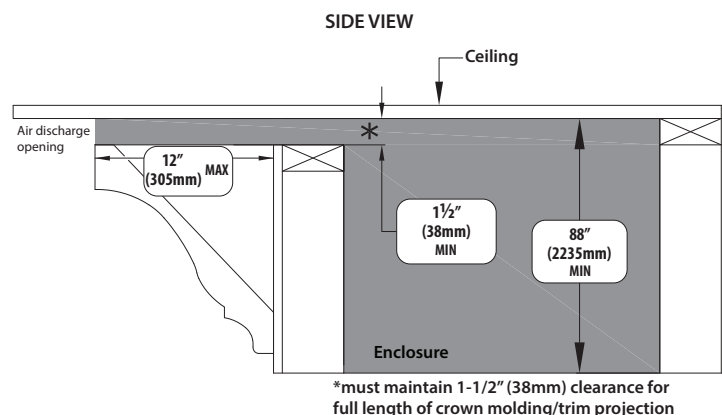

Figure 3.22, Top Vented (all 3 sides) Cavity Crown Molding Installation
- Figure 3.22 on the following page shows the installation of crown molding or similar trim work that goes up to the edge of the air discharge opening. 12" (305mm) is the maximum length of the molding or trim projection and you must maintain 1-1/2" (38mm) clearance for the full length of crown molding/trim projection. This molding or trim cannot decrease the minimum opening requirement.